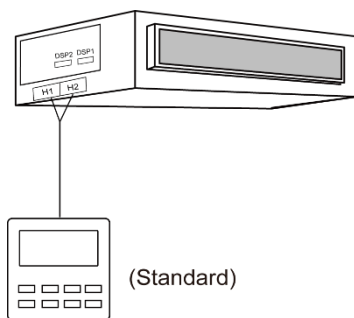

Fig 5.4.1
1) Fig 5.4.1 shows the installation of wired controller.